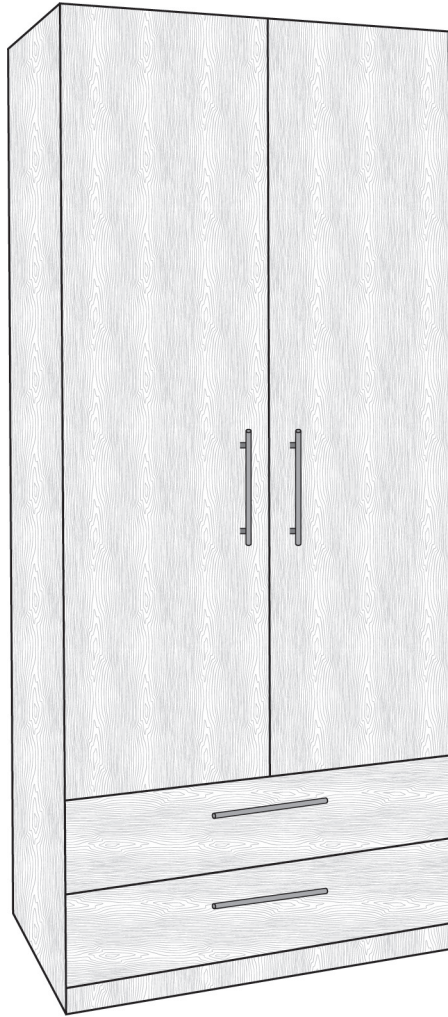

Figure 1
- 1 Figure 1 shows a wardrobe that is supplied in flat-pack form for self-assembly at home.